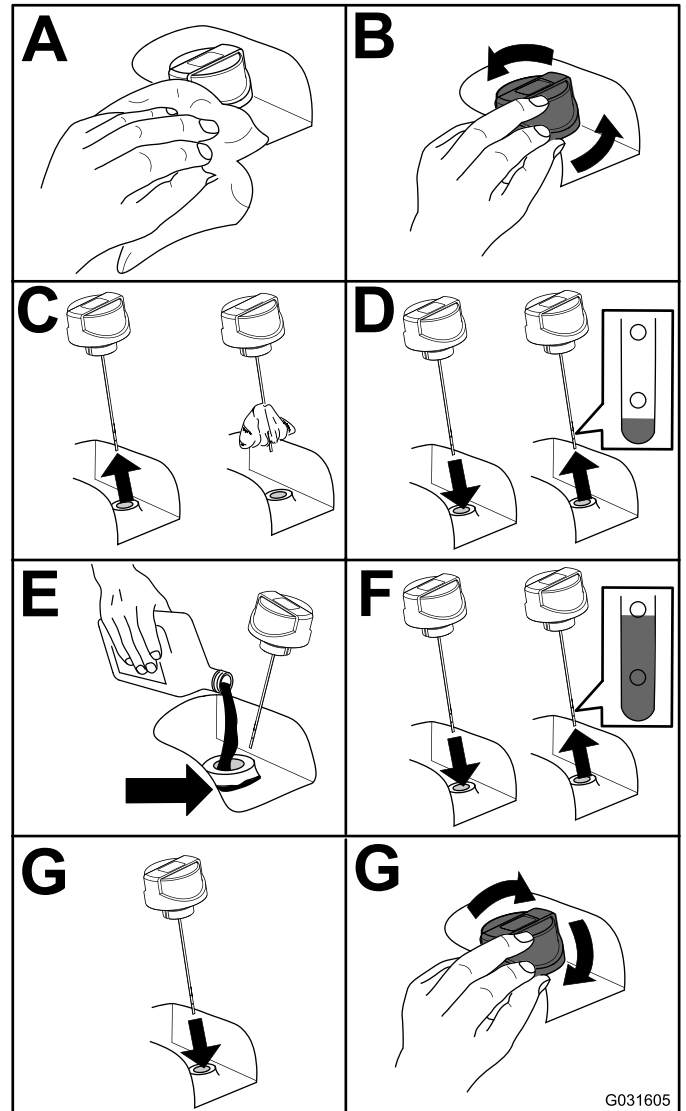

Figure 88
2. Check the hydraulic-fluid level (Figure 88).